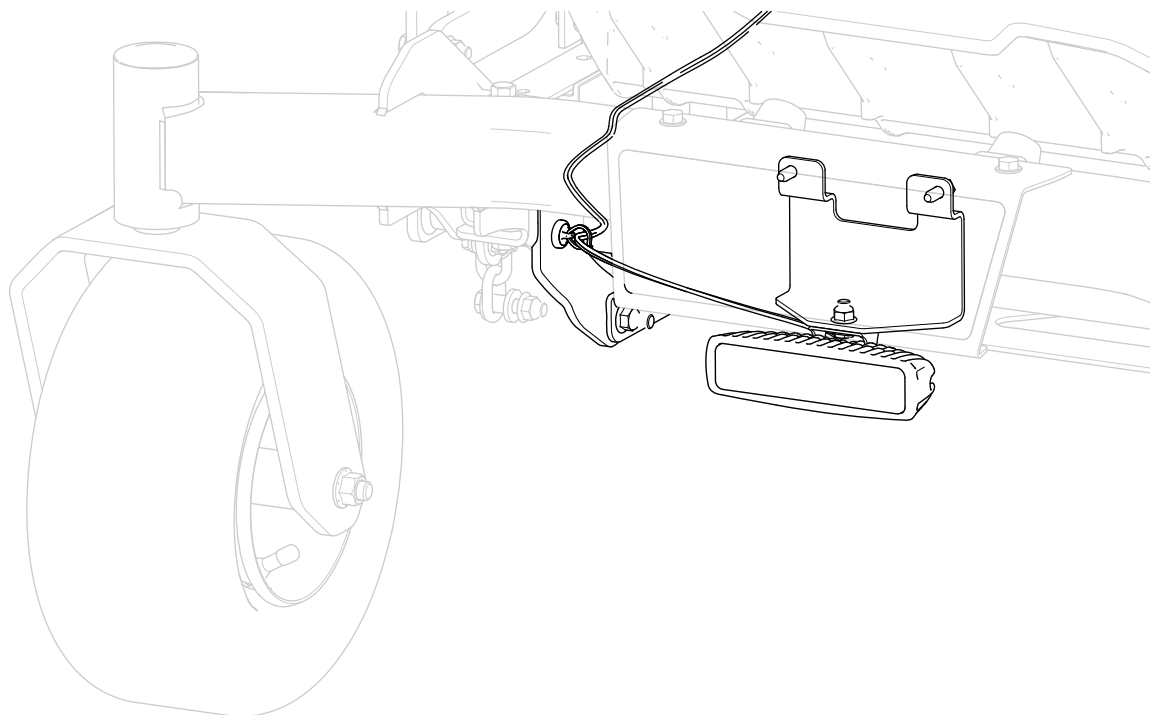

Figure 11
6. From the front of the machine, route the wire harness along the right side of the machine and attach the magnetic tie-wrap mount to the right pivot plate (Figure 11).